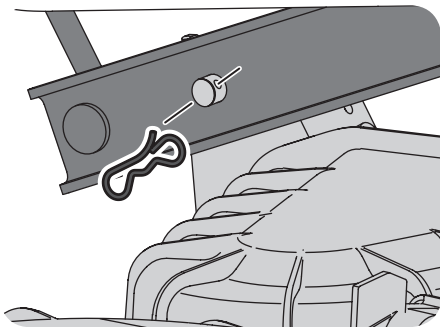

Figure 4-13
11. Looking at the deck from the left side of the tractor, locate the bow-tie pin on the rear left side of the deck. See Figure 4-13.
12. Remove the pin and slide the deck pin out of the deck lift arm. See Figure 4-13.